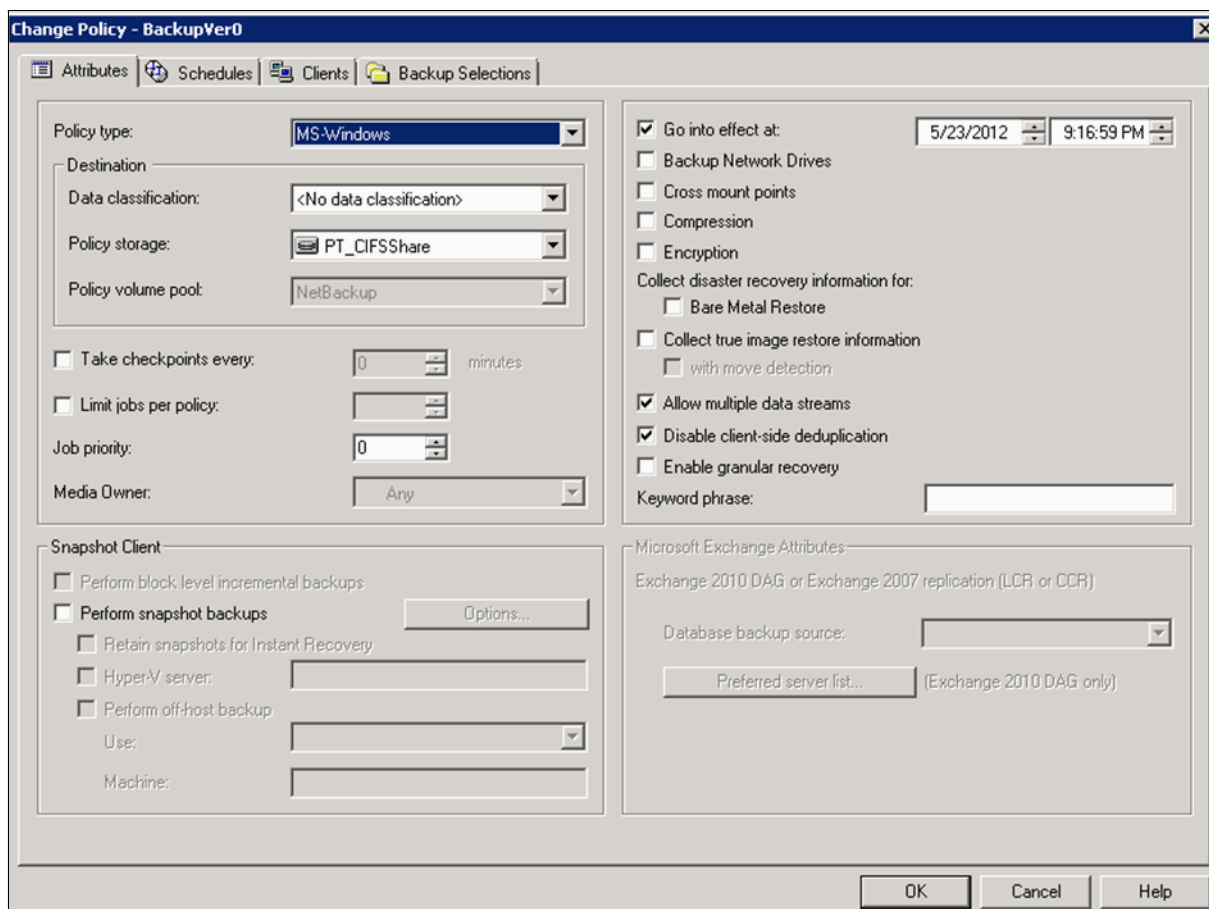

Figure 14-1 Change policy - disable encryption and compression¹
3. In the Change Policy window (Figure 14-1), select the newly created storage unit from the **Policy storage** drop-down menu.